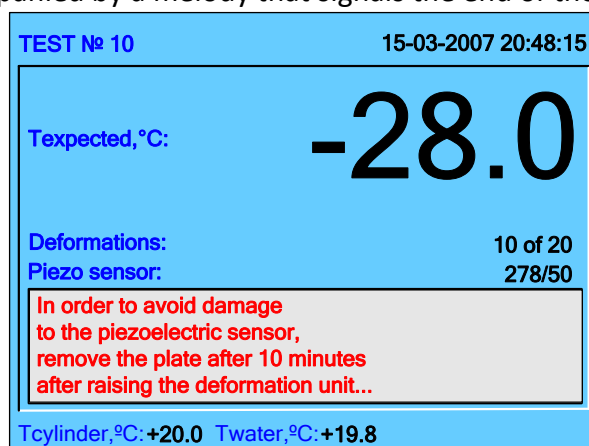

Figure 20 – End of the test.
4.7.1.1 Regardless of the selected test mode, the test ends either after the tester detects a crack in the bitumen sample, or when the maximum possible number of deformations is reached. In the first case, a message is displayed, accompanied by a melody that signals the end of the test (see figure 20).